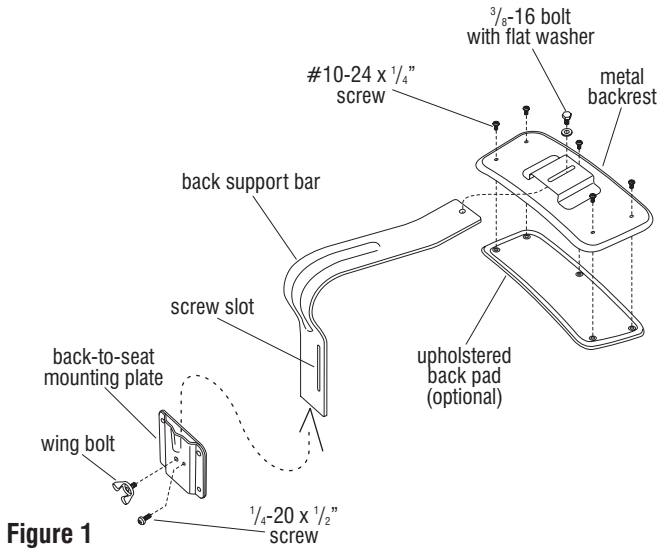

Figure 1
1. Insert back support bar into rear of backrest as illustrated. Attach backrest to back support bar with one $\frac{3}{8}$ "-16 bolt and flat washer through slot in plate on backrest and into threaded hole in back support bar (Figure 1).
2. If upholstered back pad (optional) requires installation, align the threaded rivets in back of the padded backrest with five holes in metal backrest and secure with five #10-24 $\frac{1}{4}$ " screws (Figure 1).
Note: Make sure the screw is secure through the plate and inside the slot. This prevents the back from being disengaged from the stool (Figure 1).
4. Adjust the mounting plate to be flush at the end of the back support bar and twist the wing bolt in as illustrated. Tighten to secure (Figure 1).